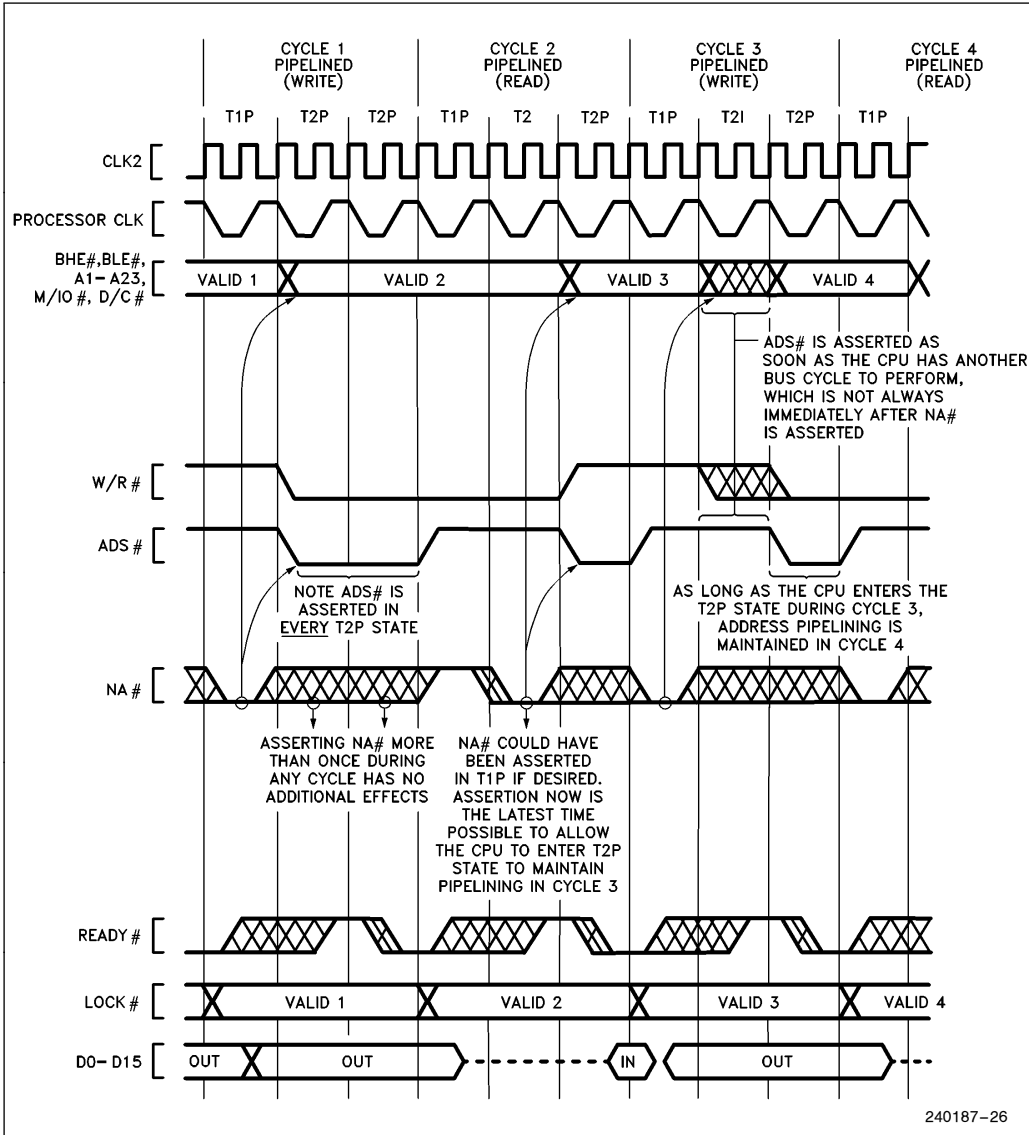

Figure 5.11. Details of Address Pipelining During Cycles with Wait States
3. Only the address and bus cycle definition of the very next bus cycle is available. The pipelining capability cannot look further than one bus cycle ahead (see Figure 5.11 Cycle 1).